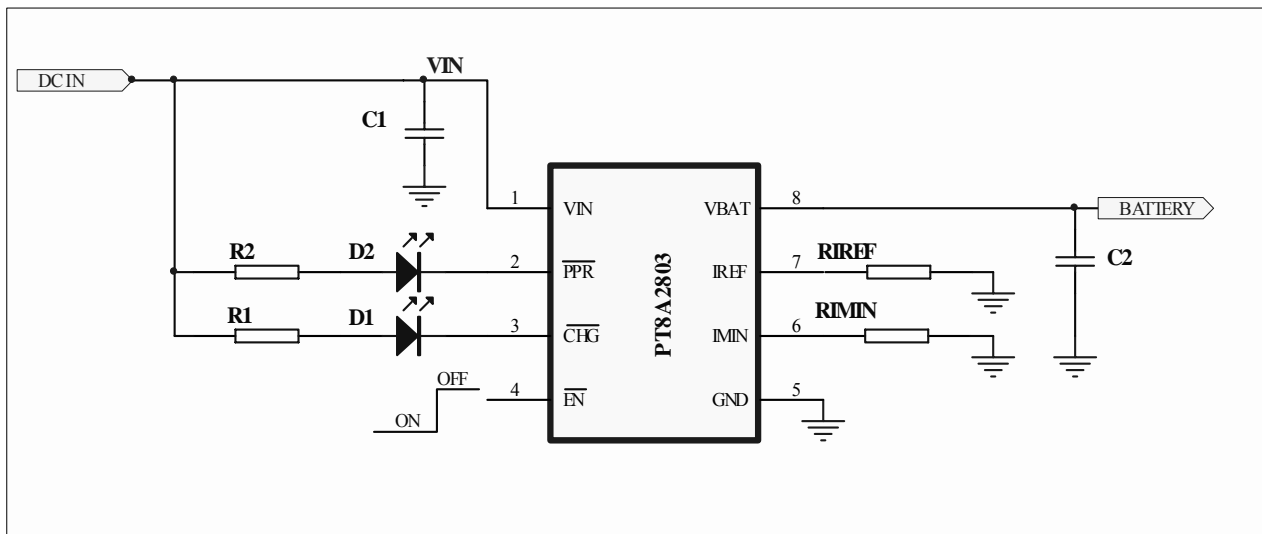
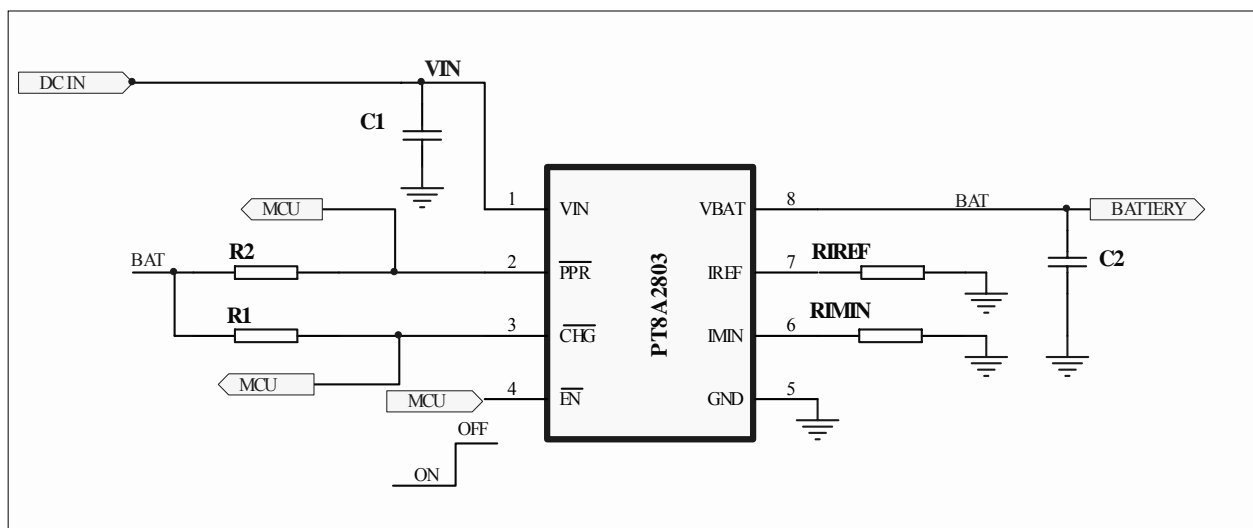
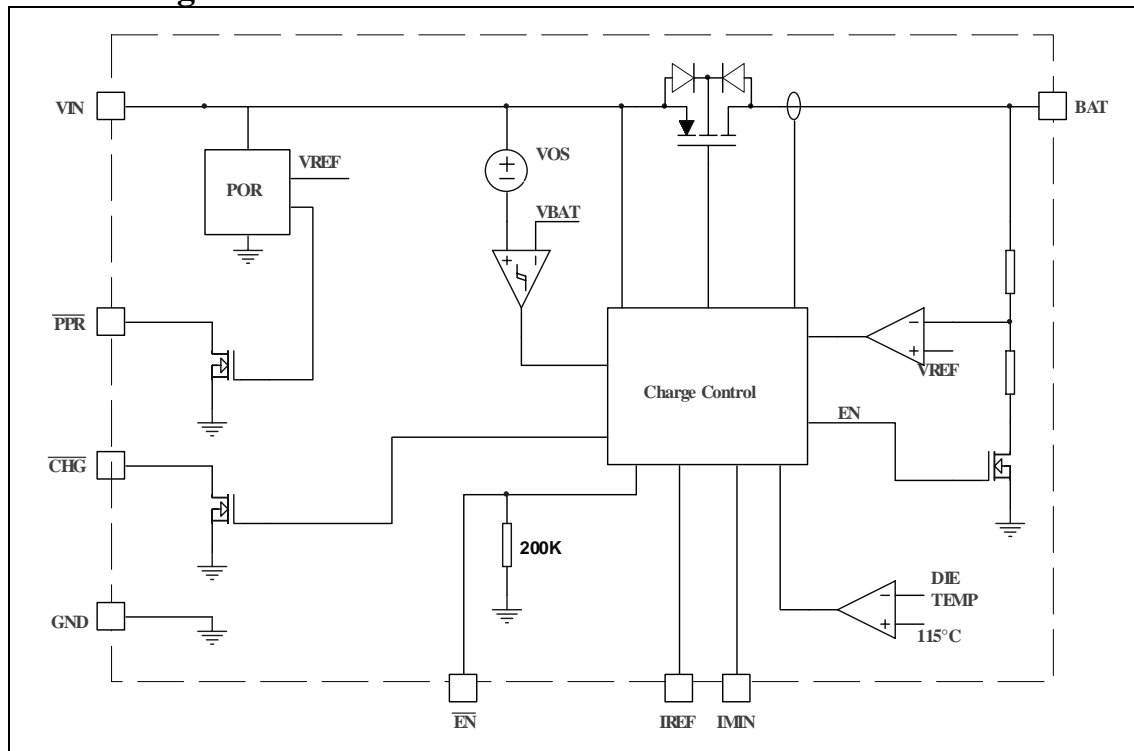
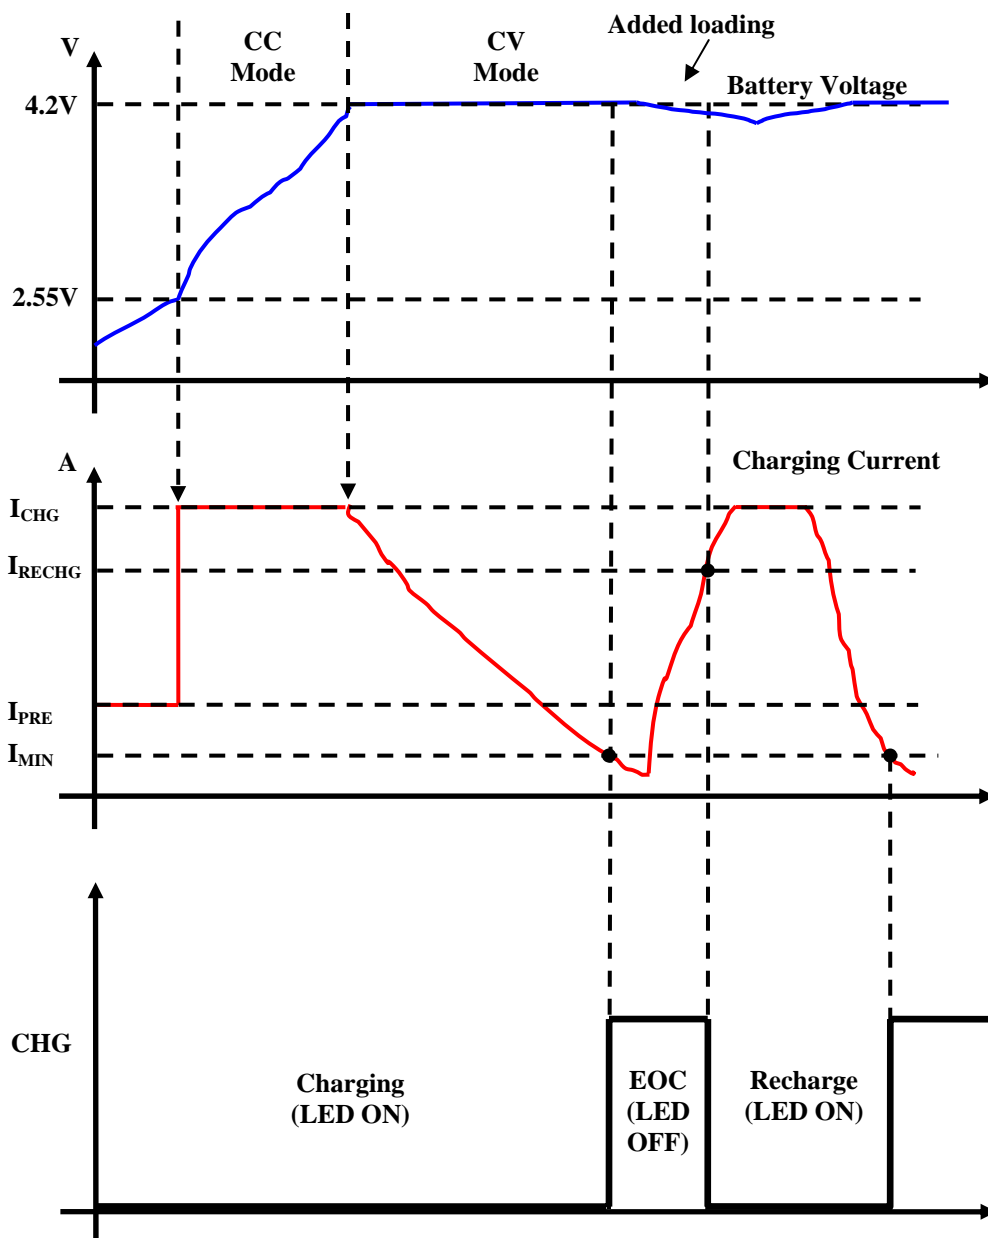

Figure 1 PT8A2803 Typical Application Circuit to Indication LEDs
Figure 2 PT8A2803 Typical Application Circuit Interfacing to a MCU
Figure 3 Block diagram of PT8A2803
Figure 4 PT8A2803 Typical Charge Profile
Component Description for Figure 1
Component Description for Figure 2
The PT8A2803 charges a single-cell Li-ion/Polymer battery with a programmable constant current (CC) or a constant voltage (CV) algorithm. The fast charge current (ICHG) can be programmed by setting an external resistor RIREF (see *Figure 1/2*) while constant voltage is factory-trimmed at 4.2V (4.1V or 4.36V) options area available upon request). If the battery voltage was deeply discharged to lower than 2.55V, PT8A2803 firstly pre-charges the battery with 20% of the programmed fast charge current. Normally, the battery voltage rises gradually during CC charge phase. When the battery voltage reaches almost 4.2V, the charger enters the constant-voltage (CV) charging mode and begins to regulate the battery voltage at 4.2V while diminishing the charging current gradually. When charging current is reduced to an amount smaller than the programmed End-Of-Charge (EOC) current level, the charger gives out a “full-charge” indication through the CHG pin, but the charger still continues to regulate the battery voltage at 4.2V with safe & small current. *Figure 4* shows the typical charge profile with the EOC/reset event.
PT8A2803 employs current recharge algorithm. The end-of charge (EOC) current level can be easily programmed with an external resistor RIMIN (see *Figure 3/4*). The $\overline{\text{CHG}}$ signal turns to LOW when pre-charge starts and rises to HIGH when EOC is reached. After reaching EOC, the charge current has to rise to typically 76% ICHG before the $\overline{\text{CHG}}$ signal will turn on again, as shown in *Figure 4*. The current surge after EOC can be caused by a load connected to the battery.
The $\overline{\text{PPR}}$ pin is implemented as an open-drain output to provide a power-good indication of the input power source such as an AC adapter. When the input voltage is higher than the POR (Power-On Reset) threshold, the $\overline{\text{PPR}}$ pin turns on the internal open-drain MOSFET to indicate a logic LOW signal. The $\overline{\text{PPR}}$ indication is designed to be independent on the chip enable ($\overline{\text{EN}}$ -pin) input. When the internal open-drain FET is turned off, the $\overline{\text{PPR}}$ pin should leak less than 1 μ A current. When turned on, the $\overline{\text{PPR}}$ pin should be able to sink at least 10mA current under all operating conditions. The $\overline{\text{PPR}}$ pin can be used to drive an LED (see *Figure 1*) or worked as logic interface to a microprocessor (see *Figure 2*).